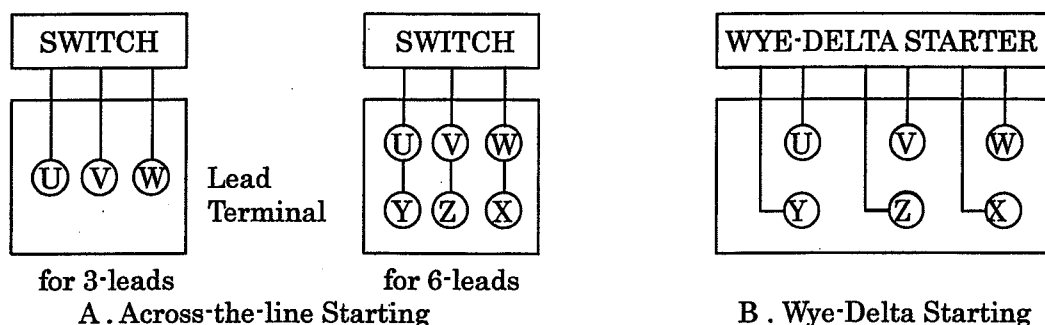

Fig. 3 Connection of lead wires
- For connection between the power cable and lead wires of motor, please refer to "Fig.3".